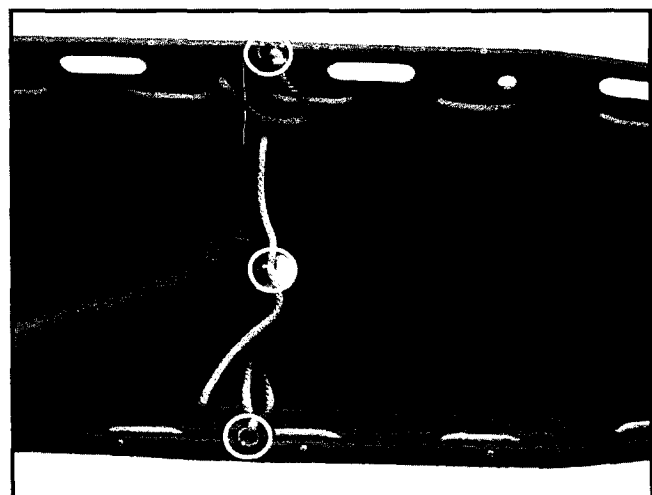

Figure 3 - Inserting the Connector Pins
3. Secure the splices in the sleeves by inserting the connector pins into the holes (Figure 3).